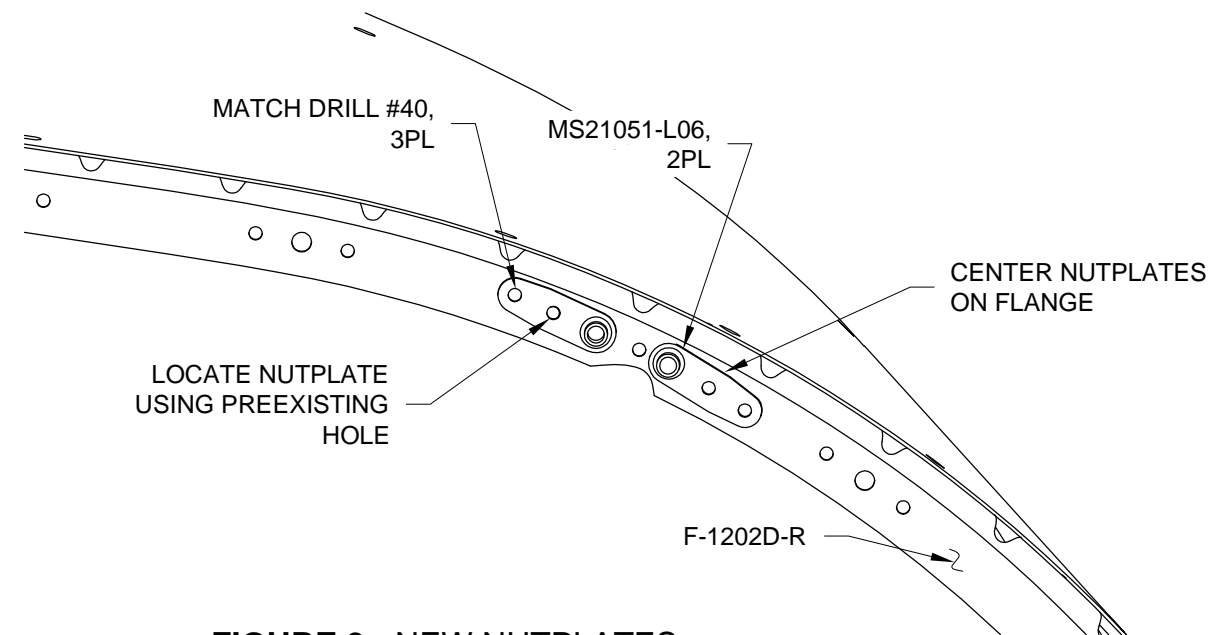

FIGURE 2: NEW NUTPLATES
Step 8: Use a screw to attach the nutplates called out in Figure 2 to the copilot (aft) side of the F-1202D-R Panel Attach Strip using the hole drilled in Step 5. Use the preexisting attach hole to locate the right nutplate. Center the nutplates on the flange of the strip.